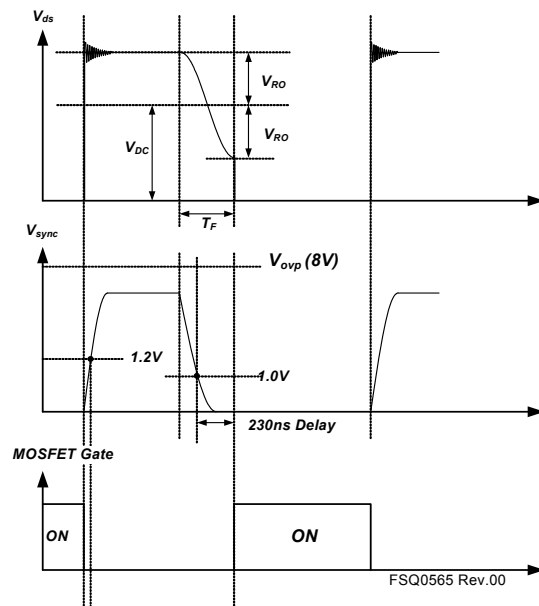

Figure 25. Quasi-Resonant Switching Waveforms
**3. Synchronization:** The FSQ-series employs a quasi-resonant switching technique to minimize the switching noise and loss. The basic waveforms of the quasi-resonant converter are shown in Figure 25. To minimize the MOSFET's switching loss, the MOSFET should be turned on when the drain voltage reaches its minimum value, which is indirectly detected by monitoring the  $V_{CC}$  winding voltage, as shown in Figure 25.